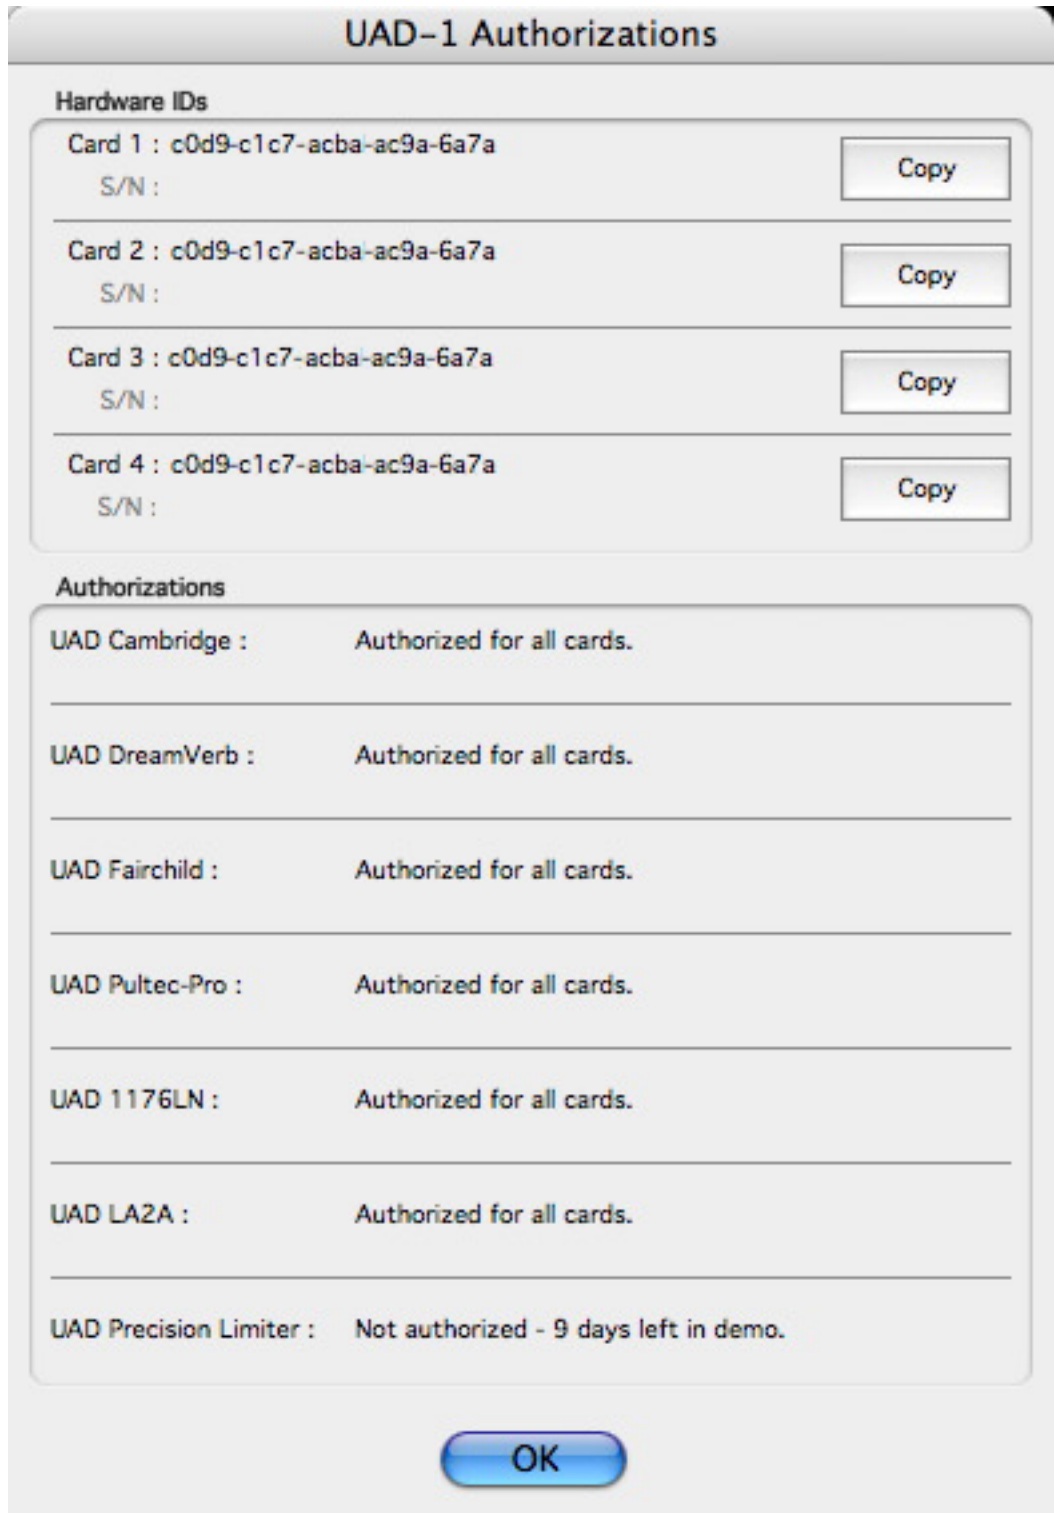

Figure 16. The UAD-1 Authorizations window
The Authorizations window (Figure 16) is accessed within the UAD-1 Meter application.
4. When the UAD-1 Meter is in the foreground, select “Authorizations...” from the System Menu (Windows; page 27) or File Menu (Mac OS; page 28). The Authorizations window (Figure 16 on page 55) appears.